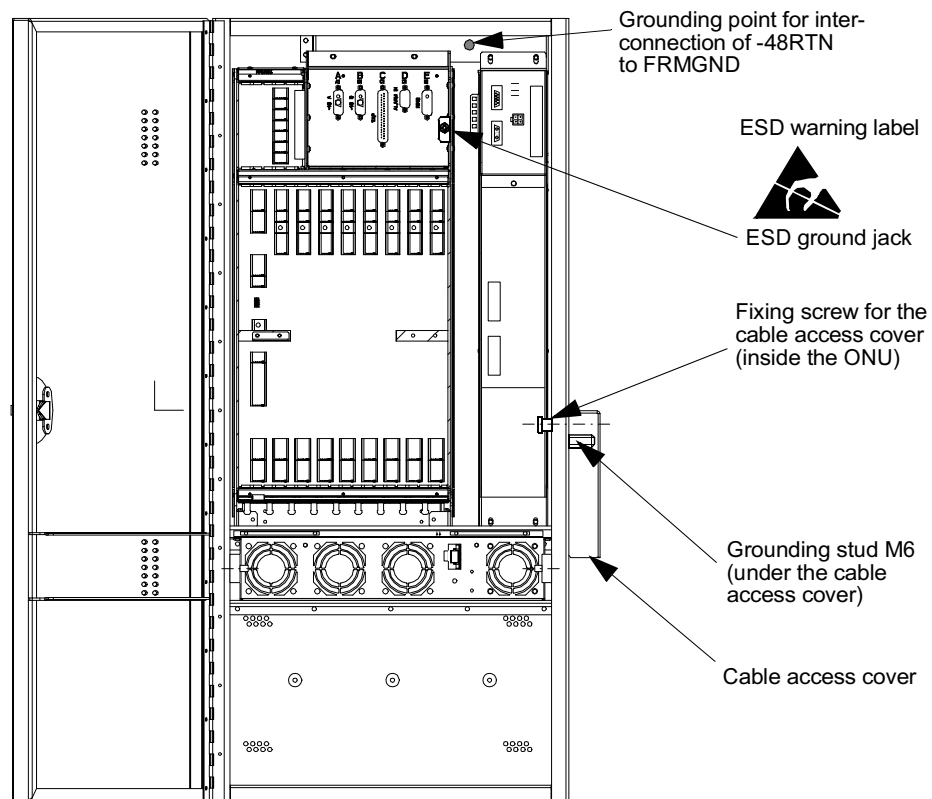

Figure 4-4 ESD ground jack and grounding studs/points
One ESD ground jack is mounted on the right side of the ONU shelf, as illustrated in Figure 4-4. An ESD warning label is affixed directly below the socket.
- Step 4 Open the ONU door and loosen the fixing screw for the cable access cover on the right side of the ONU housing. For positions of the cable access cover, see Figure 4-4.